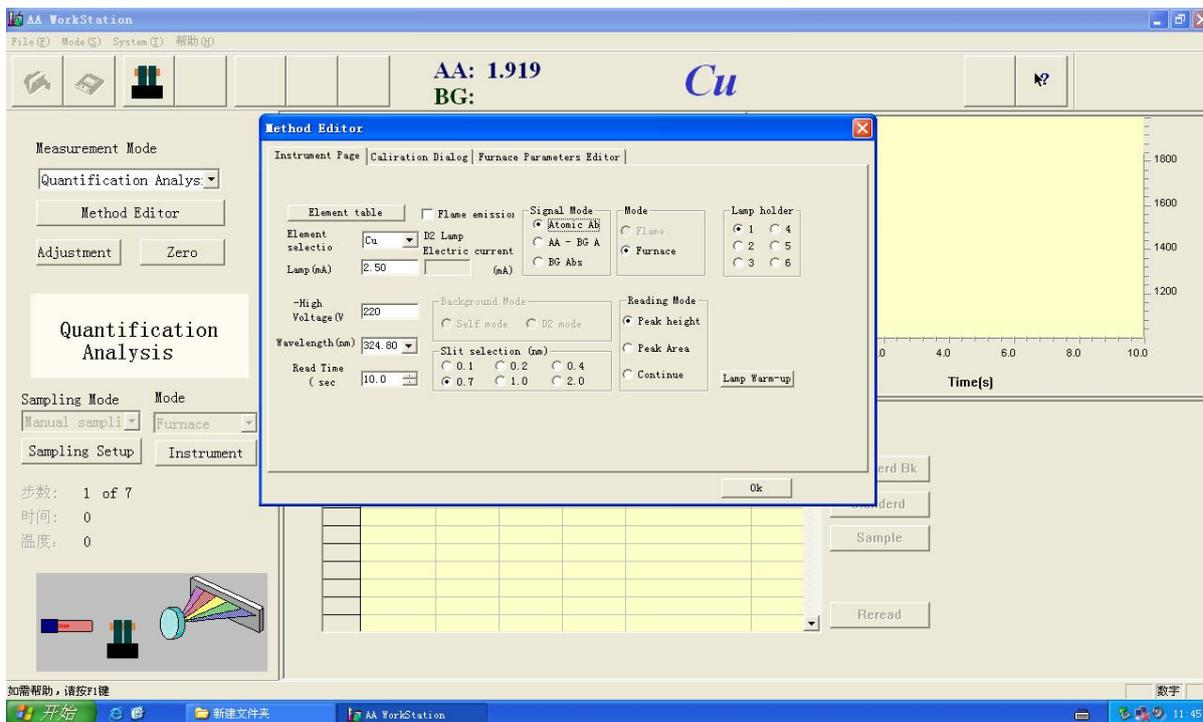

Figure 4-18
8. Signal Mode. There are three signal modes(atomic absorption, background absorption, background correction). Choose random one in the radio box, (dot inside the radio box shows it is selected), as shown in Figure 4-18.